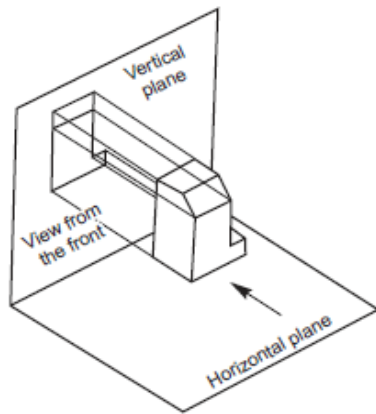

Fig. 3.1 Principle of obtaining the view from the front
- a) **View from the front:** The view from the front of an object is defined as the view that is obtained as projection on the vertical plane by looking at the object normal to its front surface. It is the usual practice to position the object such that its view from the front reveals most of the important features. Figure 3.1 shows the method of obtaining the view from the front of an object.